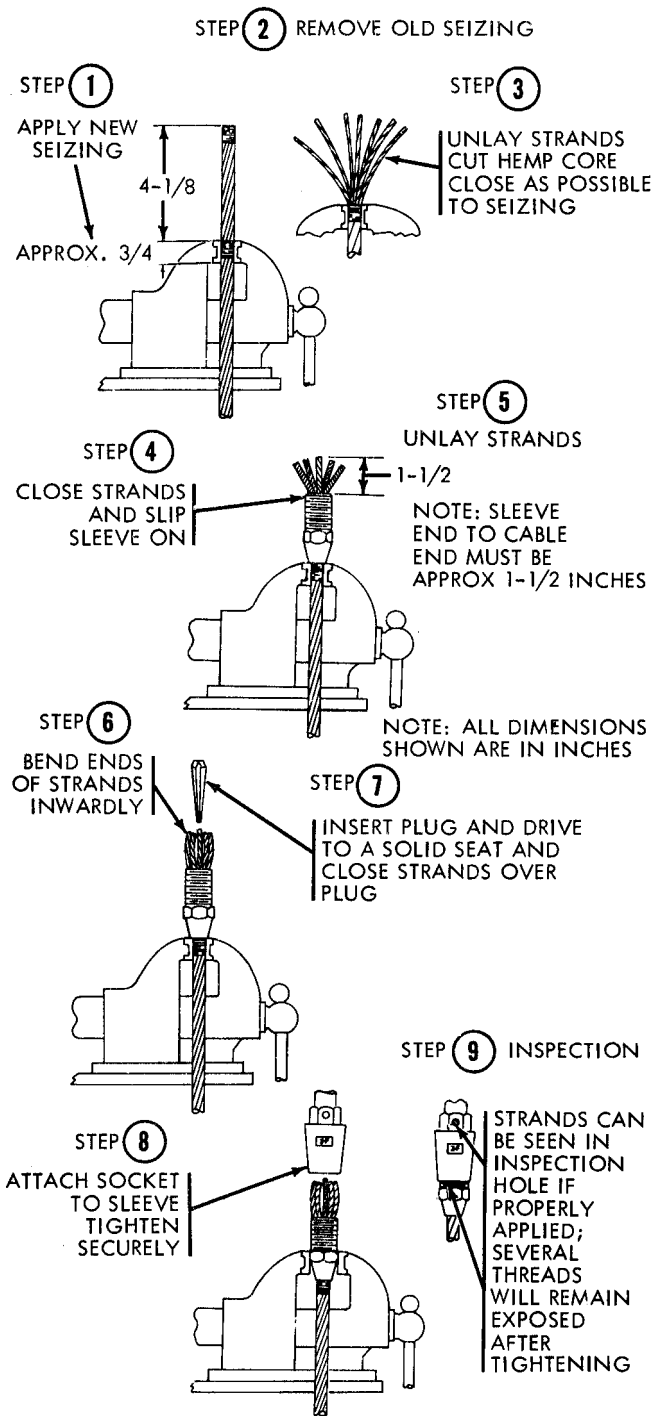

Figure 2-259. Attaching hoist cable connectors.
(4) Completely unwind the cable from the drum. Remove the hexagon-socket setscrew from the winch drum, and pull the end of the cable from the hole in the drum and out through the sheaves and boom.
(5) Unscrew the connector sleeve, pull the cable from the connector, and remove the fluted plug and sleeve from the cable (fig. 2-259).
(2) Install the hoist cable connector as indicated in figure 2-259.